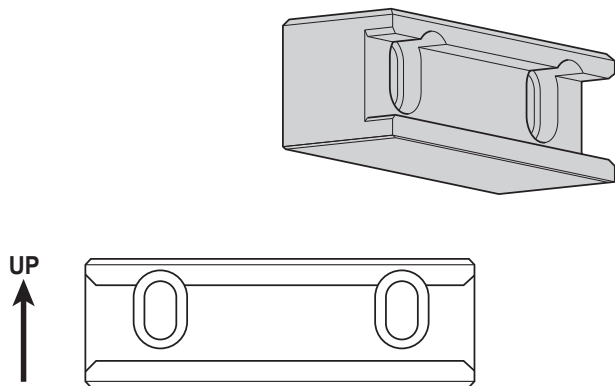

Figure 3. 3600 Bracket Orientation
1. Orient the thinner portion of the bracket above the screw slots facing up (Figure 3).